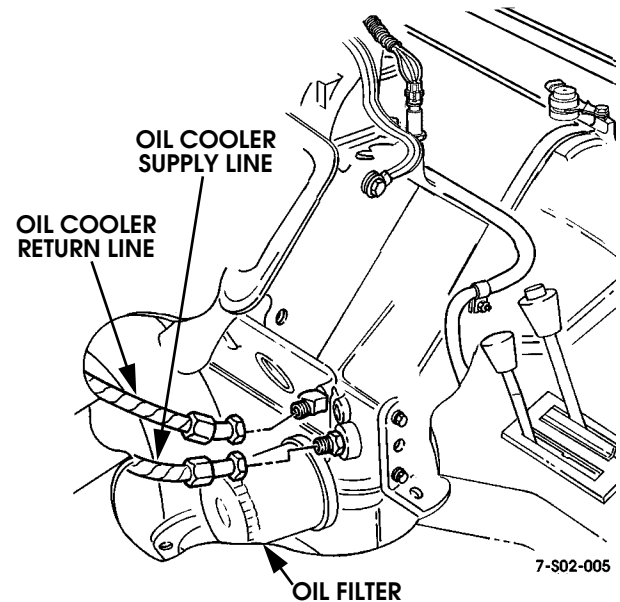

Figure 2-75: Oil Cooler Line Connection
8. Connect engine oil cooler lines to fittings at rear of engine block (Figure 2-75).
11. Install new oil filter (Figure 2-75).